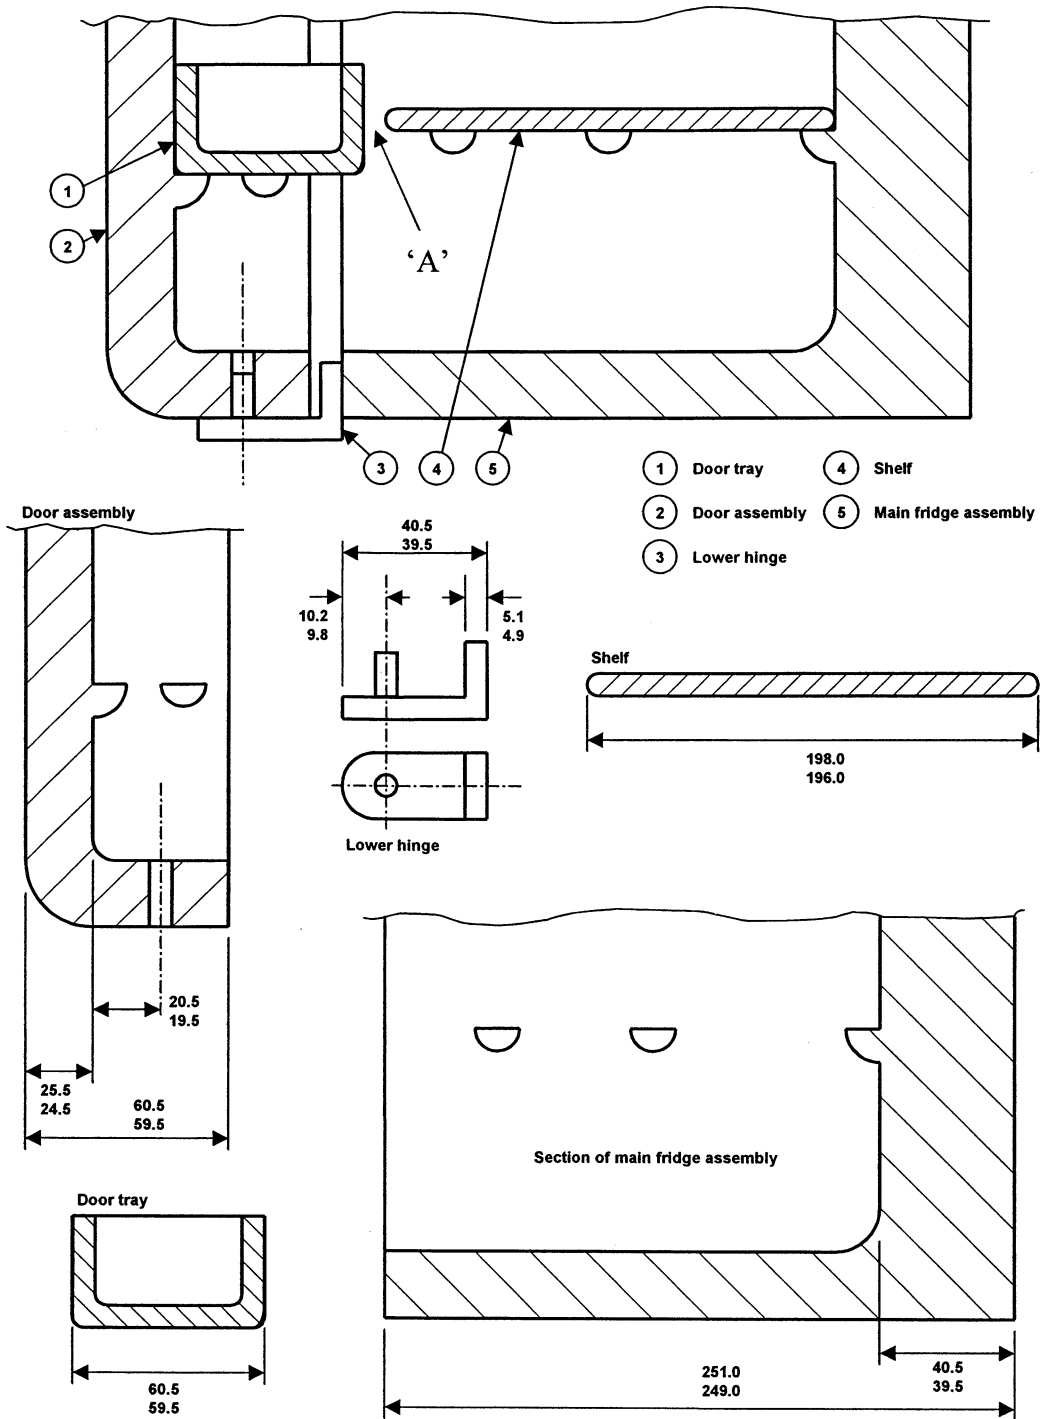

Fig. 2
- (iii) Figure 2 shows a sketched section through the refrigerator (lower portion only). There have been some difficulties in manufacturing, with interference between the Shelf (4) and the Door Tray (1) at 'A'. Suggest changes to the design to eliminate this difficulty, supporting your answer with calculations and sketches. [20%]